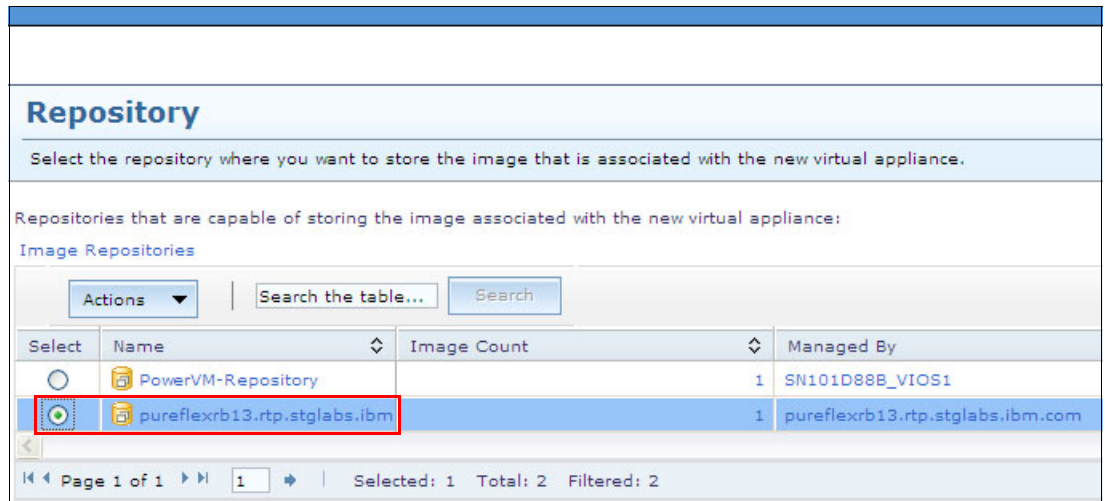

Figure 10-69 Capture: Repository
5. Select the repository as shown in Figure 10-69. The repository is where you want to store the image that is associated with the new virtual appliance.